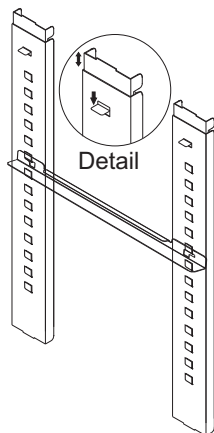

Figure 1-9. Installed Shelf Channel
1. Install the pilasters, two on each side, with the tab facing into the center of the chamber with their slots up. Press downward on the top section of each pilaster to locate, then release when in position (Figure 1-9). Fit each pilaster securely into the indentations at each side of the ceiling and the floor of the chamber. Figure 1-7 shows the diffuser pan, pilasters, and shelf channels.
4. Figure 1-9 shows a shelf channel installed on pilasters on the right side of the chamber.